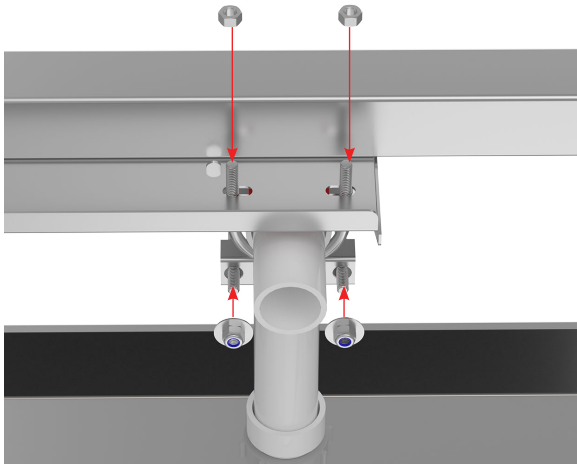

Fig. 37: Reattach nuts and bolts/clamps
2. Reattach the sink lower brace/shelf by installing the U-bolts and nuts attached to each drain assembly and the other bolts, nuts, clamp saddles and red/black rubber pads (Fig. 37) attaching the lower brace/shelf to each drain assembly. Do this for each drain assembly.